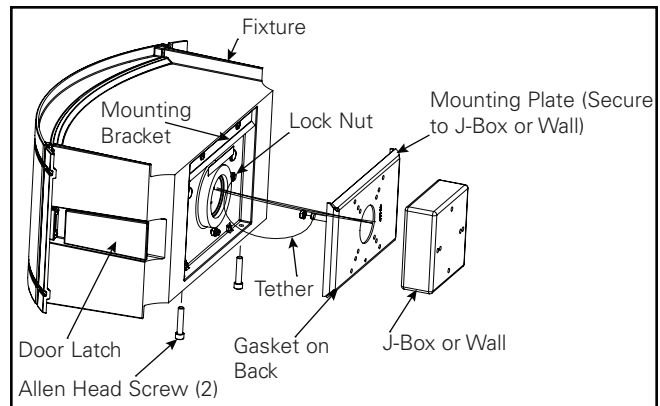

Figure 1.
1. Remove the mounting plate from the fixture by loosening the two socket head cap screws using 3/16" allen key. (Figure 1.)